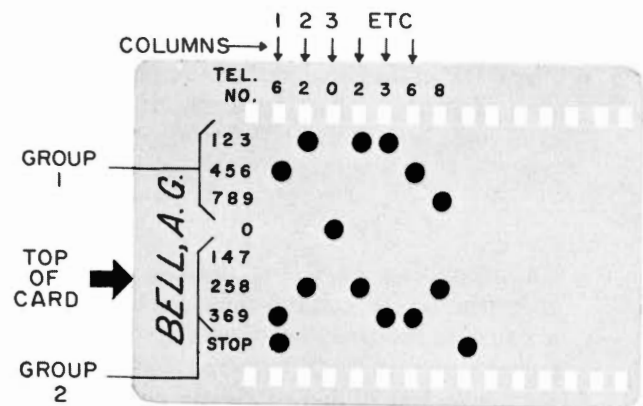

Fig. 3 - 7-Digit Card Coded for Telephone Number 620-2368 (MAin O-2368)
3.03 Coding instructions for cards (Fig. 3 and 4) are as follows:
- Write the name and the desired telephone number in the spaces provided as shown in Fig. 3 and 4. Convert the two exchange letters to numbers by referring to your telephone dial. (For example use 2 for A or B or C.)
number in group 1 and punch out the perforation with a pencil or ball point pen. (In Fig. 3 the number is 6.) In the same column locate the same number in group 2 and punch out the perforation. If not already removed, punch out the STOP in this same column. Repeat this procedure for each digit in the telephone number. If the number is zero, only one hole is punched. In the column immediately following the last digit, punch out the STOP hole (this hole will stop the card and immediately prepare the telephone for talking even though the card still has some distance to travel).